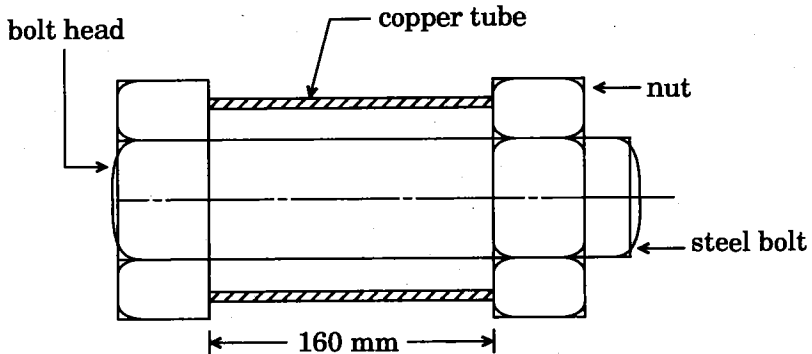

Figure 1
1. Consider the compound bar shown in Figure 1 consisting of a steel bolt of diameter 18 mm, surrounded by a copper tube of outer and inner diameter 30 mm, and 20 mm respectively. The assembly is just snug at 15°C. The material properties are given as :